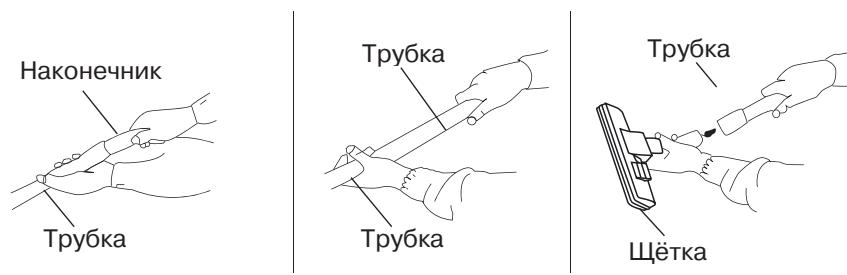

Рис.2
- Attach the telescopic extension pipe (4) to the nozzle (5).
- Extend the lower part of the telescopic pipe as necessary (fig. 2).
- Select the necessary attachment – floor/carpet brush (1), crevice nozzle (28), or the furniture brush (27) – and attach it to the telescopic pipe (4) (fig. 2).
- If necessary, attach the attachments (28, 27) directly to the ending (5).
- Keep your hands on the pipe (4) or the nozzle (5) while in use.